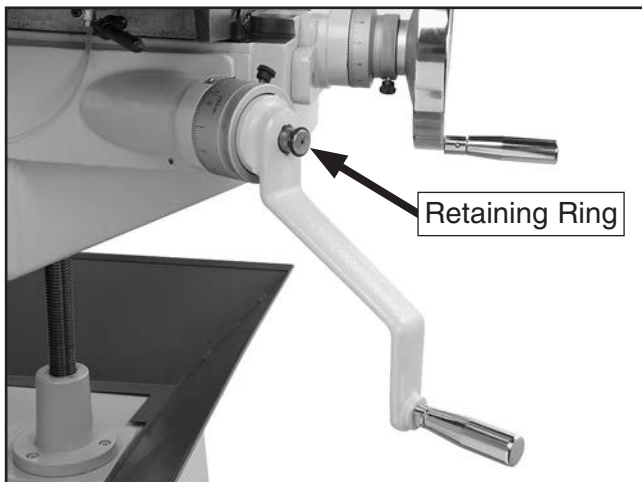

Figure 10. Vertical crank handle properly installed.
2. Use the external retaining ring pliers to remove the retaining ring from the end of the vertical crank screw, reverse the crank handle, then re-install the retaining ring (see **Figure 10**).